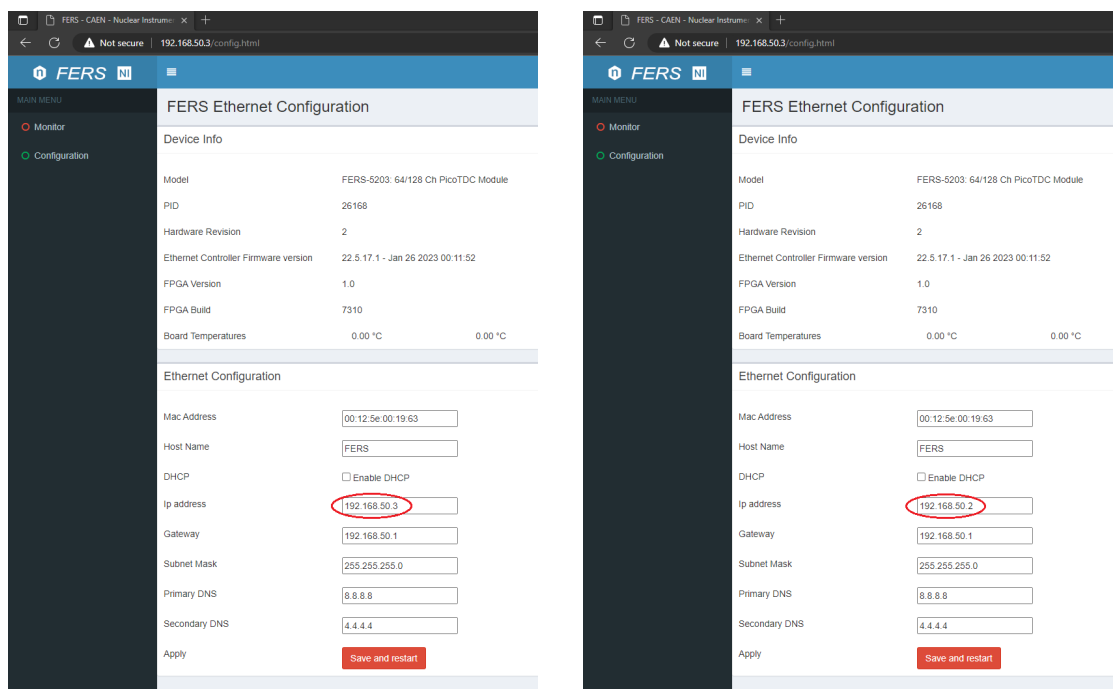

Fig. 3.16: Configuration Tab of the A5203(BB)/DT5203 Web Interface, with default settings on the left and modified IP address on the right.
3. Open the Configuration Tab of the Web Interface (see Fig. 3.16) and select for the "IP address" parameter a value different from the IP address set for the PC. For instance, in the A5203(B)/DT5203 User Manual [RD1], the IP address of the PC was set to be "192.168.50.4". For this reason, the "192.168.50.2" IP address was chosen in this example.